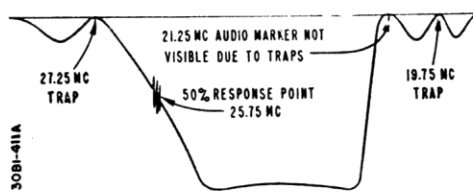

Figure 3-3. Overall Video IF Response Curve.
5. Check curve obtained against the ideal over-all video IF amplifier response curve shown in figure 3-3, also check trap and video IF carrier points by means of marker generator. It is important that marker pips be in the proper location on the re-
sponse curve as shown in figure 3-3. Correct location of 25.75 MC marker, should be 6db below peak (50% point on slope of curve). With correct trap adjustments, markers at 27.25 MC, 21.25 MC and 19.75 MC points should not be visible generally. Consistent with proper band-width and correct location of markers, the response curve should have maximum amplitude and flat top appearance.